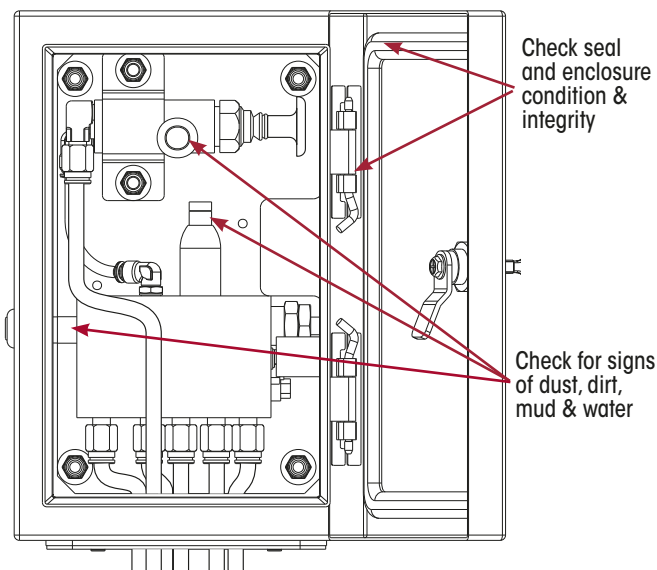

Figure 6: Inspect LACV & Enclosure
3. Check that the enclosure is clear of dirt and moisture. If necessary, vacuum or blow out dirt. Refer Figure 6.